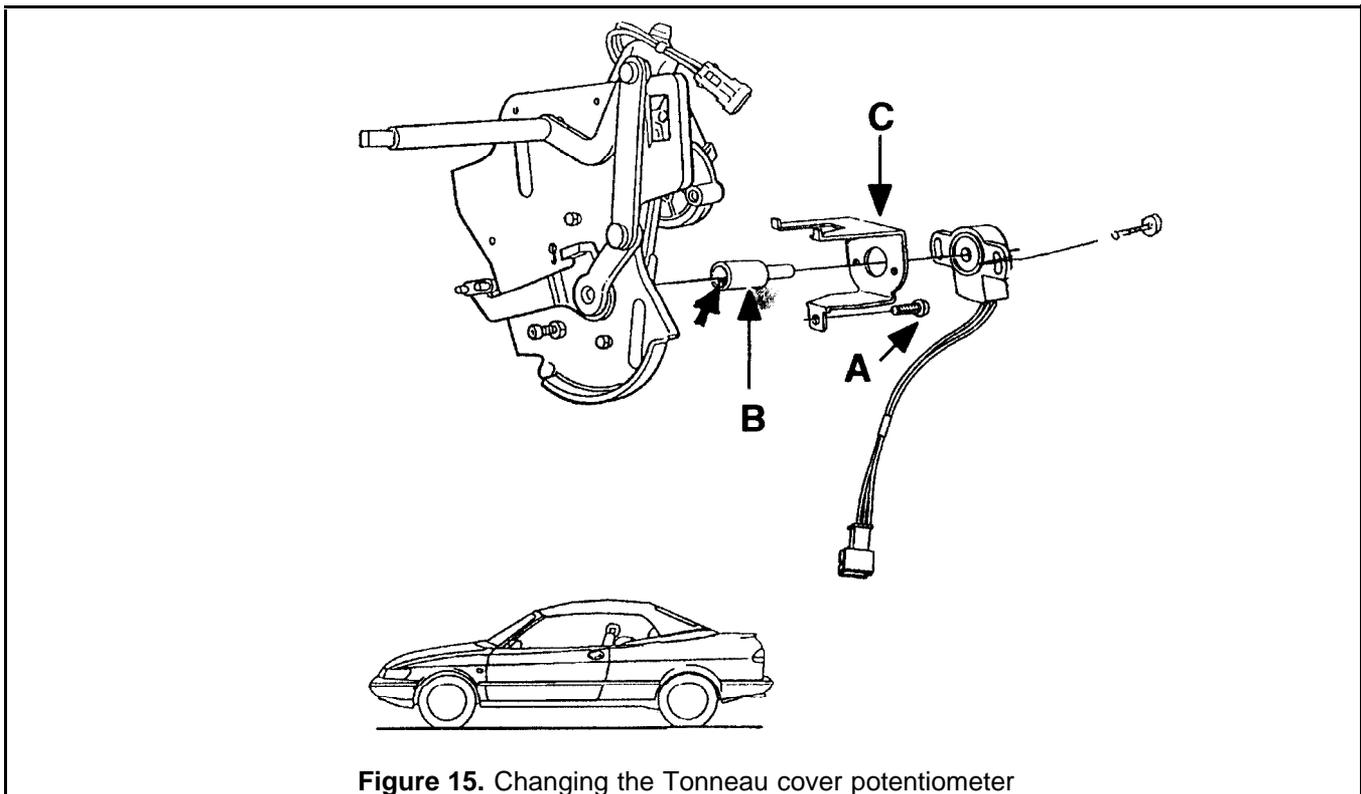

Figure 15. Changing the Tonneau cover potentiometer
5. Remove the existing bracket, potentiometer and white plastic adapter by the Tonneau cover motor. Scrap them but retain the bracket retaining screw. See Figure 15.A on previous page. Pry off white plastic Piece with screwdriver.
8. Press the new black plastic adapter onto the shaft of the Tonneau cover motor. Fit the key on the inside of the adapter in the groove on the shaft. See Figure 15.C.